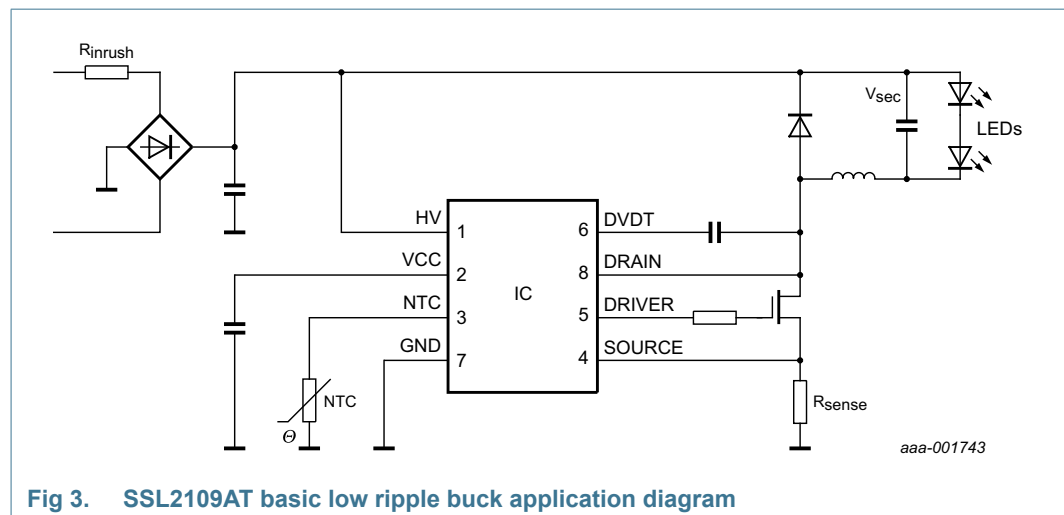
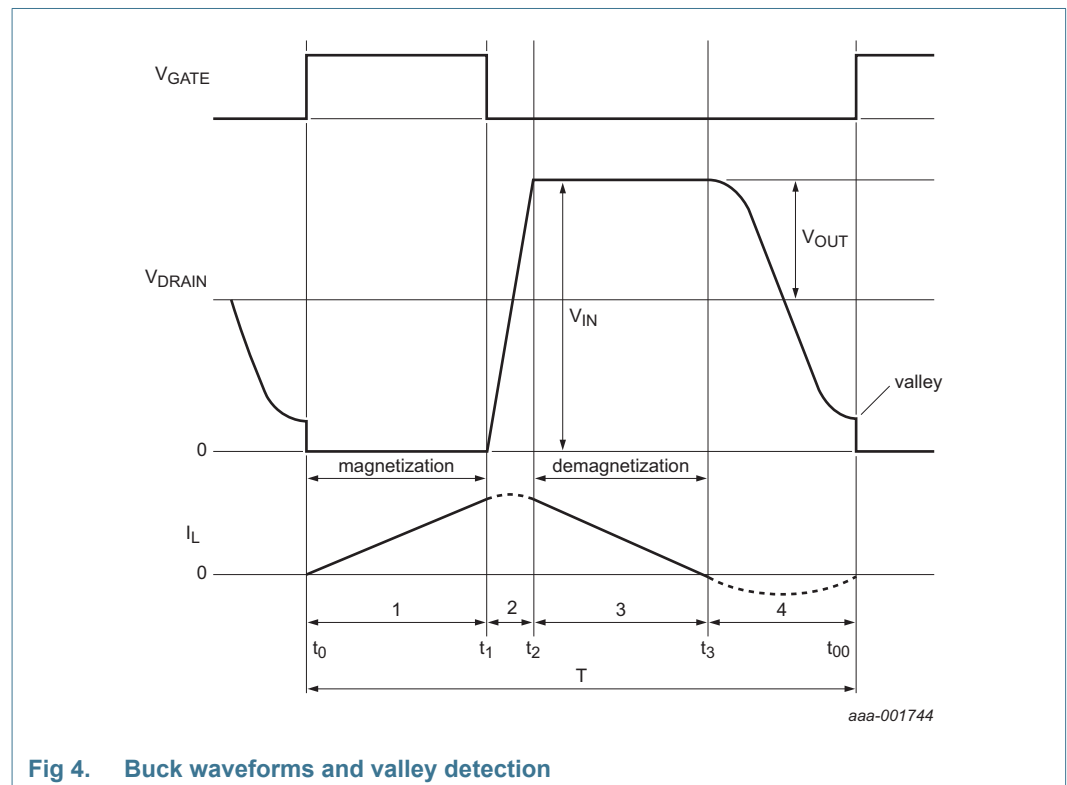

Fig 3. SSL2109AT basic low ripple buck application diagram
Fig 4. Buck waveforms and valley detection
- Low component count LED driver solution (see Figure 3):
The converter in the SSL2109AT is a Boundary Conduction Mode (BCM), peak current controlled system. Figure 3 shows the basic application diagram. Figure 4 shows the waveforms.
A new cycle is started when the primary switch is switched on (see Figure 4). In the following sections, “on” represents the conductive state and off the non-conductive state.